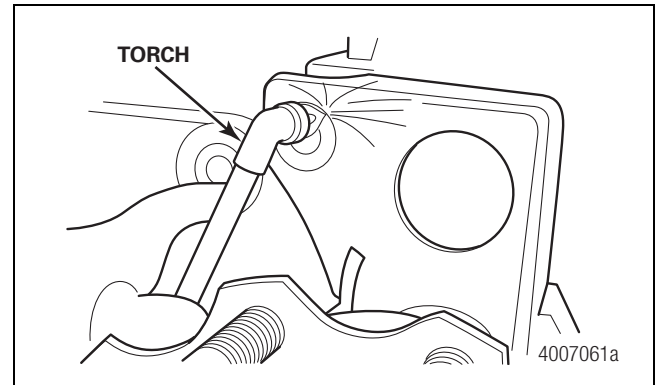
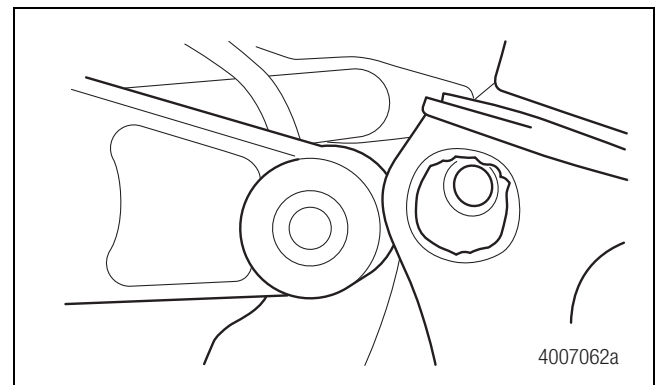

Figure 8
Figure 9
2. Use a torch to cut out the damaged upper control arm bosses from both the outboard and inboard of the axle seat. Use care not to cut beyond the white line. Figure 8 and Figure 9.